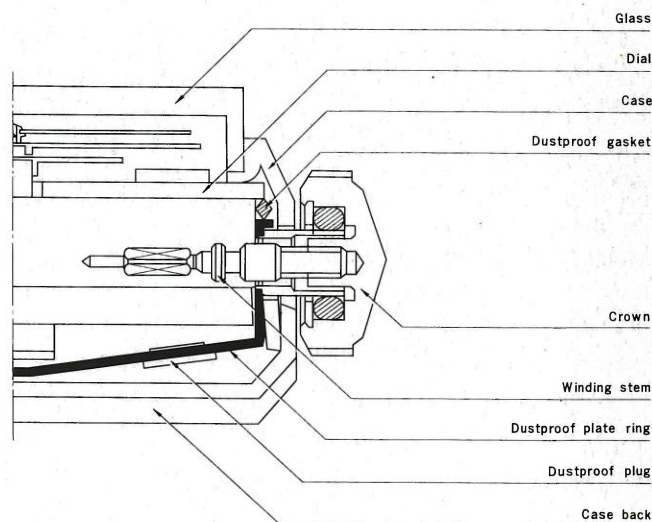

Fig. 2
2)-2 Case provided with dustproof plate ring (Fig. 2)